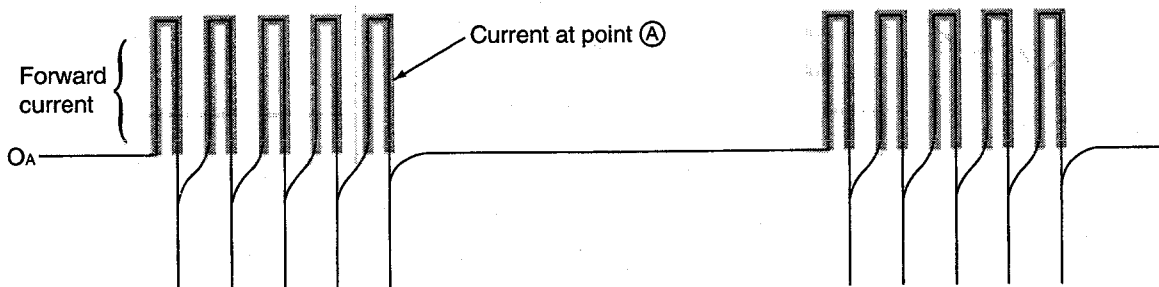
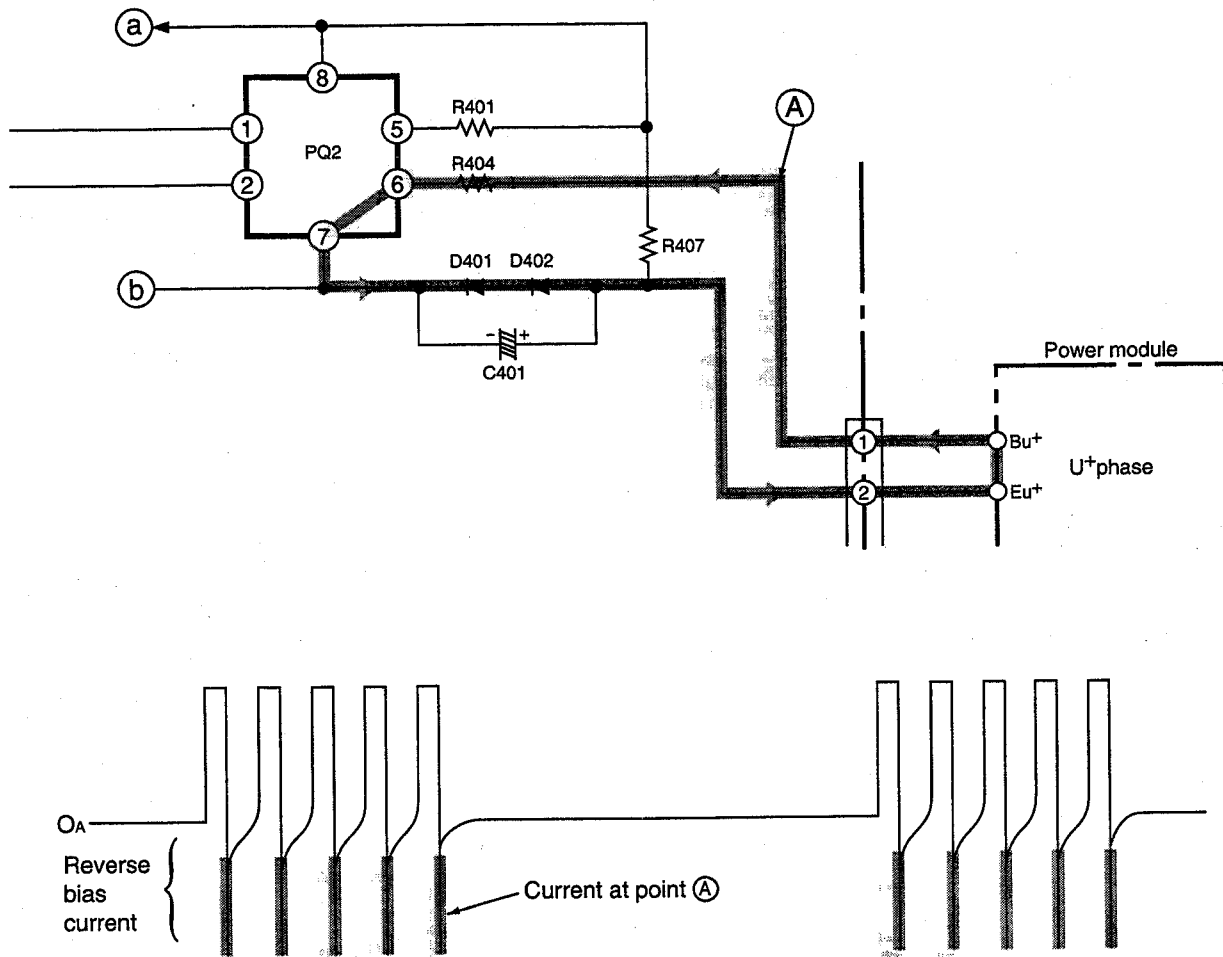

Fig. 7-2 Forward Current Waveform at Point A
Fig. 7-3 Waveform of Transistor Base Current (Reverse Current at Point ①)
- When pin ②③ of the micro computer goes "HI" → "LO", a photocoupler between PQ2 pins ① and ② turns on and current flows to terminal A → R401 → PQ2 → R404 → power module's Bu+ terminals → Eu+ terminals → D402 → D401 → terminal B and drives the upper arm transistors. (Fig.7-2)
- As described in the rotor magnetic pole position detecting circuit, the upper arm drive circuit supplies current to the bases of the transistors on the power module's positive ⊕ side which turn on or off according to the position detection signals. The signals according to the position detection signals are output from pins ②③, ②④ and ②⑤ of the micro computer and are input to pins ② of photocouplers PQ2 - PQ4.
- When pin ②③ of the micro computer then goes "Lo" → "Hi", a photocoupler between PQ2 pins ① and ② turns off and the reverse bias current flows to C401 → power module's Eu+ terminals → Bu+ terminals → R404 → PQ2 to cut off the upper arm transistors. (Fig.7-3)